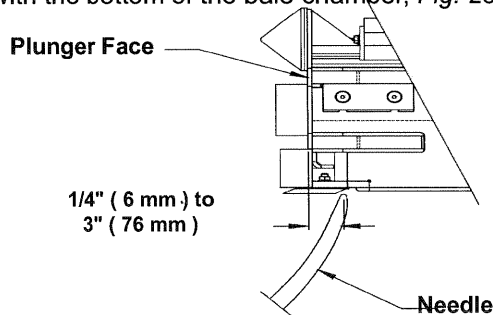
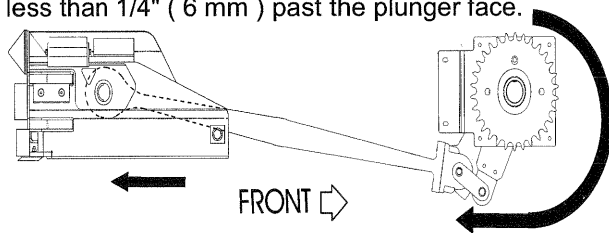

Fig. 23
Fig. 24
A. Trip the knotter clutch by raising the trip bar until the notch is positioned over the knurl, and turn the flywheel clockwise until the tips of the needles are even with the bottom of the bale chamber, *Fig. 23*.
B. The plunger face must be 1/4" (6 mm) to 3" (76 mm) past the tips of the needles *Fig. 23*, as they are entering the chamber area and the plunger is on the compression stroke, *Fig. 24*. The needles are late if the plunger face is more than 3" (76 mm) past the tips of the needles and the needles are early if they are less than 1/4" (6 mm) past the plunger face.